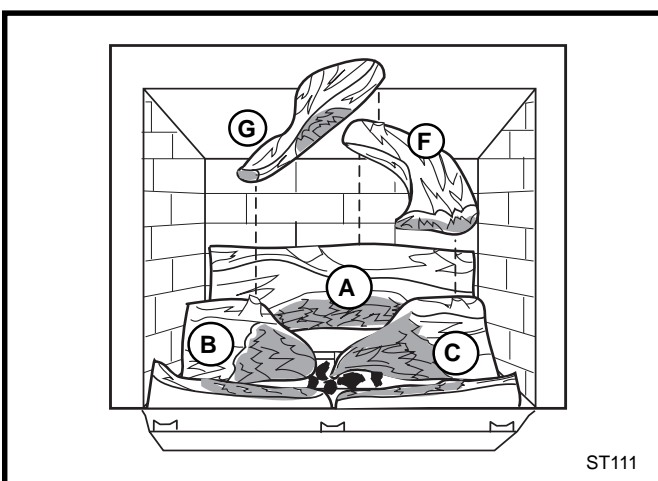

Fig. 15 Install the two top logs; engage pins on the middle logs with the sockets of the top logs.
- Engage the socket in the upper right log, F, with the pin on the right middle log C, as shown in Figure 15. The back end of log F should rest on log A and touch the back of the firebox.
- Engage the socket in the bottom of upper left log, G, with the pin on the left middle log B, as shown in Figure 15. Rest the back end of log G on top of log F. **Adjust logs F and G to contact the back wall of the firebox.**